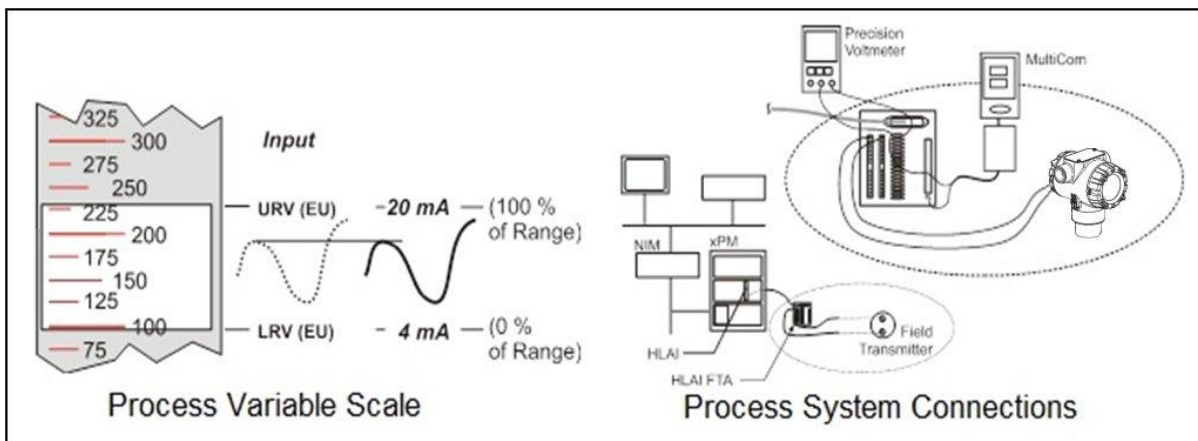

Figure 13 – DE Analog Mode Scaling and Test Connections
The purpose of analog output calibration is to verify the integrity of electrical components in the output current loop. For output calibration, establish the test set up shown in Figure 13. Values of components in the current loop are not critical if they support reliable communication between the transmitter and the MC Toolkit.
For a DE transmitter operating in analog mode, calibrate the analog output current to the Process Variable (PV) input range such that 4 mA corresponds to the LRV of 0% and 20 mA corresponds to the URV of 100%. Figure 13 shows the PV scale and representative process system connections.